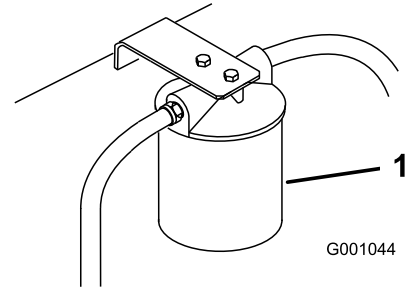

Figure 66
- Place drain pan under filter, remove the old filter and wipe the filter adapter gasket surface clean (Figure 66).